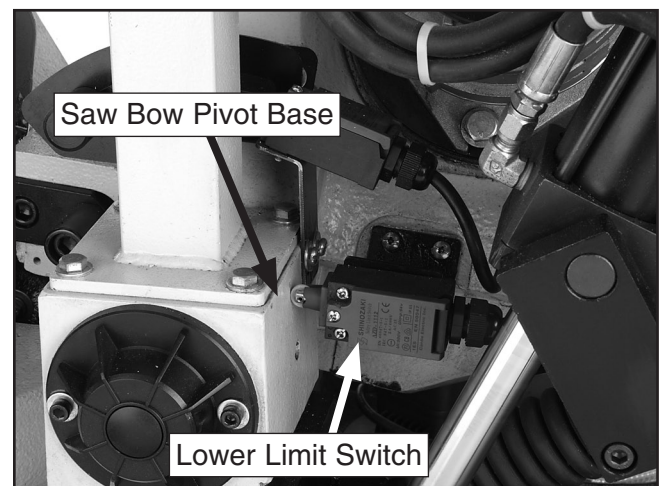

Figure 66. Limit switch.
6. Adjust the lower limit switch so that the button is depressed against the saw bow pivot base (**Figure 66**).